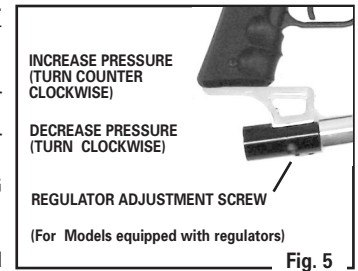

Fig. 5
- To increase pressure into your marker, turn the REGULATOR ADJUSTMENT SCREW counterclockwise using a hex wrench (Fig. 5)